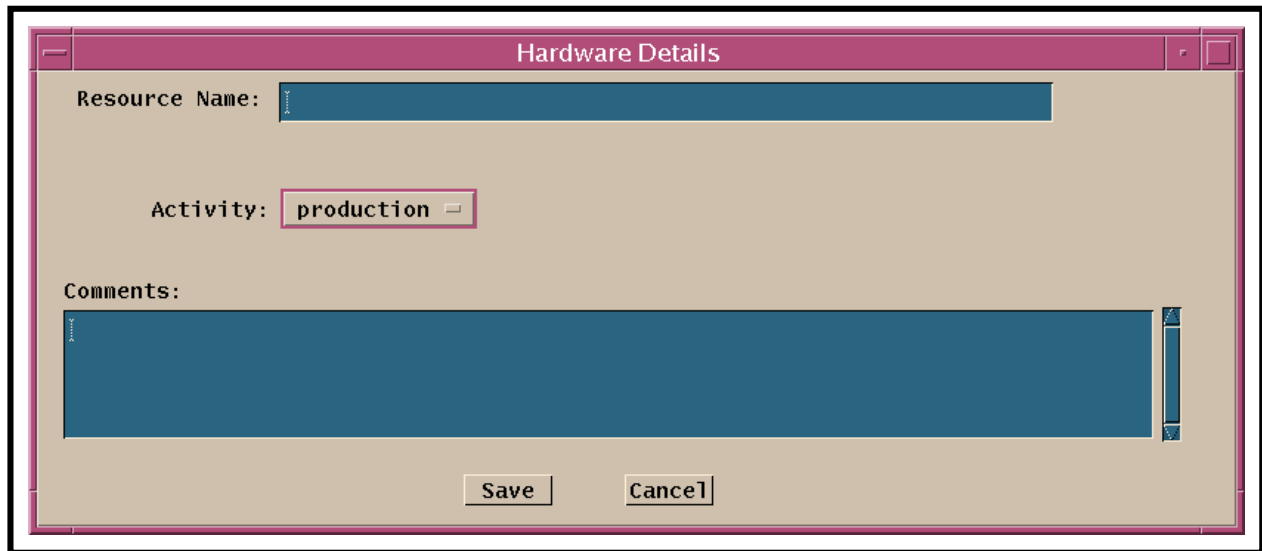

Figure 15. Hardware Details GUI
- The **Hardware Details** GUI (Figure 15) is displayed.